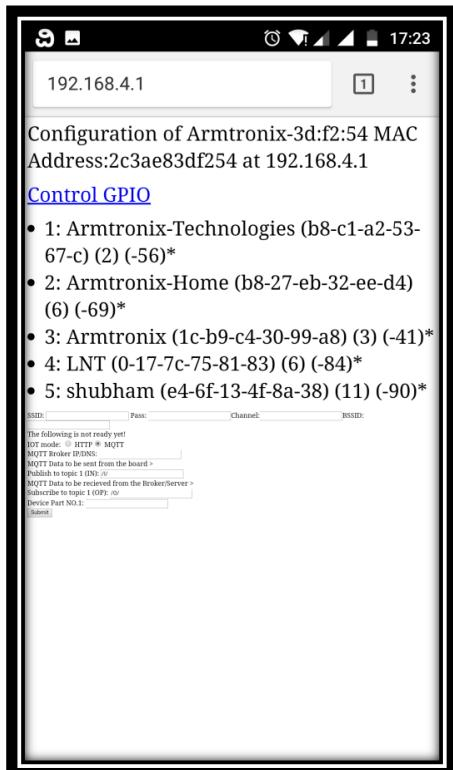

Figure 9: Accessed webpage of DIO module
- xii. Clinking on Enter button after entering default IP address, you will be able to access its webpage as shown in Figure 9.